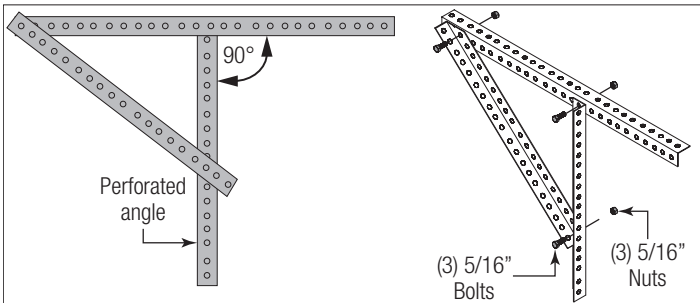

Figure 66
**IN THE EVENT THE SPRING(S) WERE OVER-WOUND, HOLD THE DOOR DOWN FIRMLY AND CAUTIOUSLY REMOVE LOCKING PLIERS FROM VERTICAL TRACKS TO PREVENT IT FROM RISING UNEXPECTEDLY.**
**See Figures 66, 67, and 68 for the following steps.**